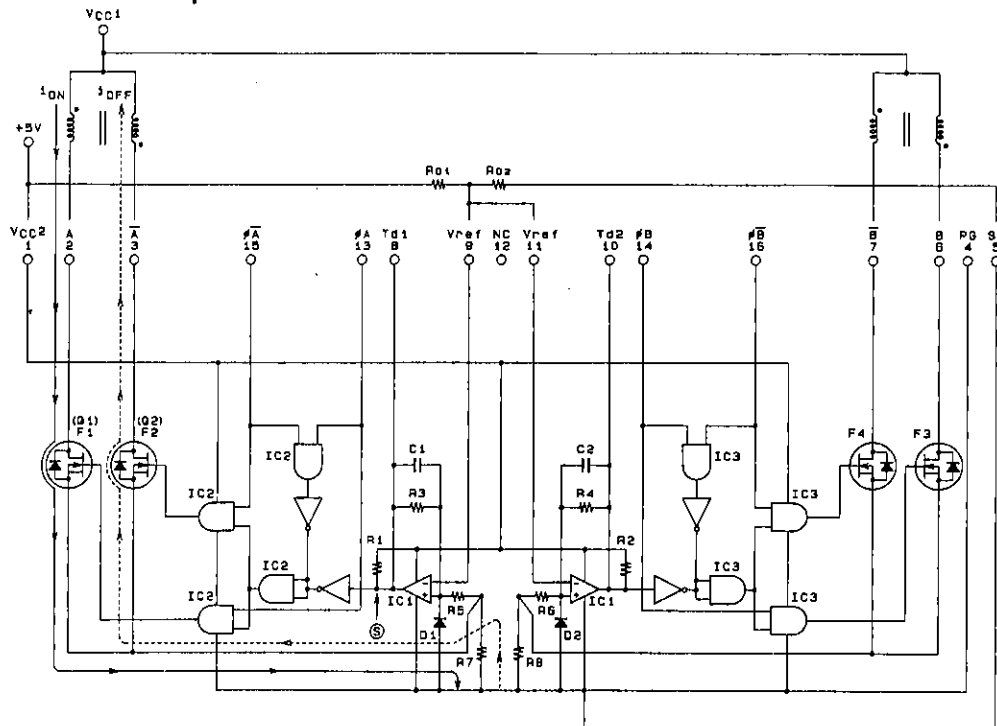

Fig. 1 STK6713AMK4 Internal Equivalent Circuit
The STK6713AMK4 equivalent circuit is given in Fig. 1. The circuit consists of the phase drivers, the comparator, the PWM excitation select and the current detect resistance. In Fig. 1 ϕA is input with high, and $\phi \bar{A}$ with low. When Q1 goes on, the +pin of IC1 (comparator) goes low, making IC1 output (S) low also. A winding current i_{ON} through Q1 increases as: